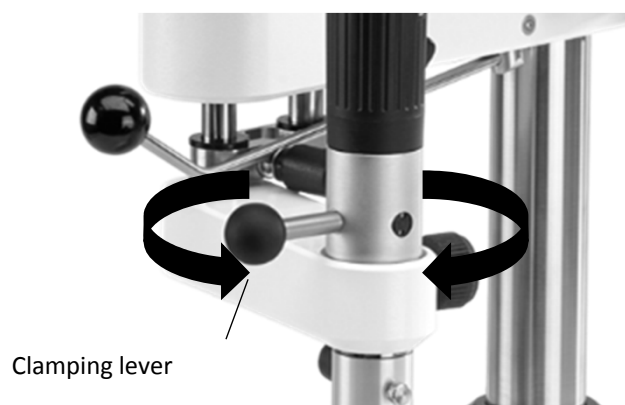

Fig. 6
- Turn clamping lever fully to the right ("Open") and insert the tool (Fig. 6)